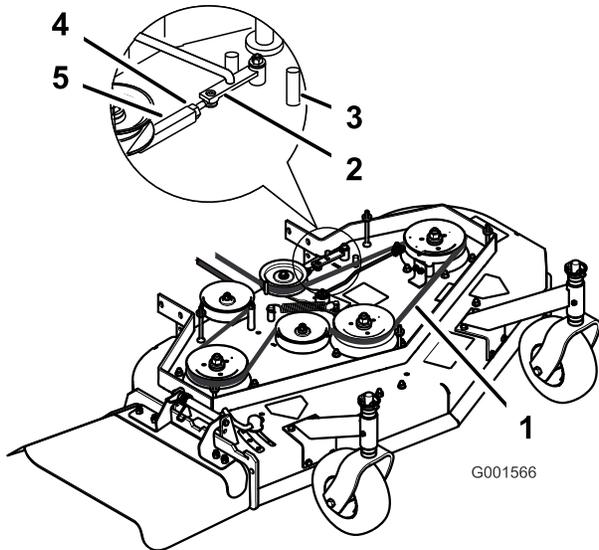

Figure 44
3. Loosen the locknut on the turnbuckle (Figure 44).
- Rotate the turnbuckle toward the front of the mower to decrease the tension on the belt (Figure 44).